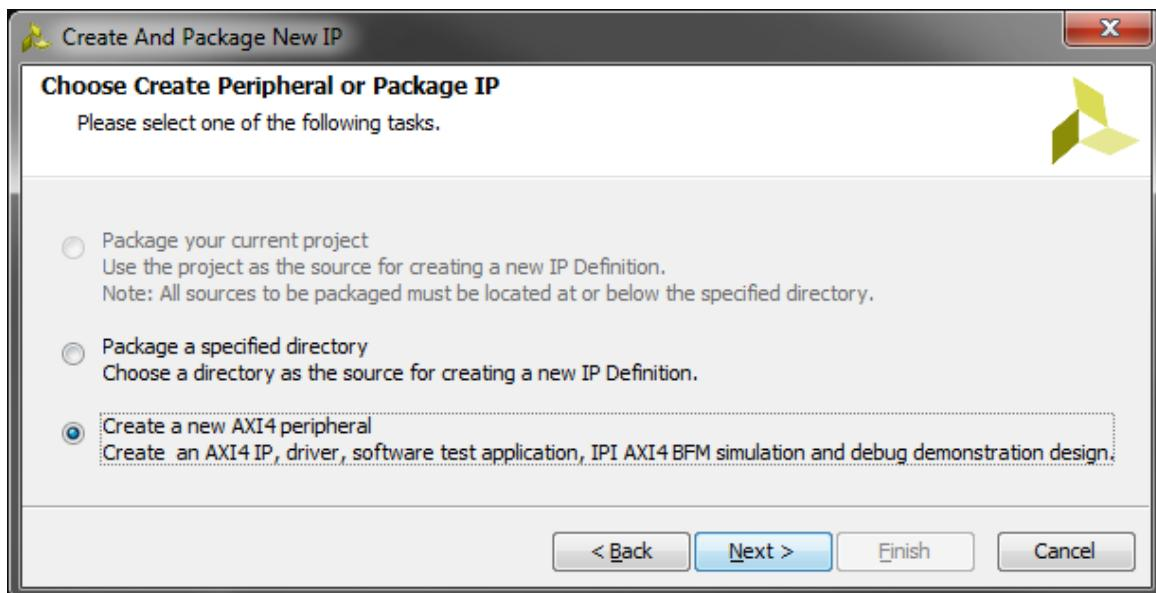

Figure 4.5: Choose Create or Package IP dialogue
The *Choose Create Peripheral or Package IP* dialogue (Figure 4.5) is where we specify whether to create a new peripheral template file or to package existing source files into an IP core.
- (m) Select **Create new AXI peripheral**, as shown in Figure 4.5.